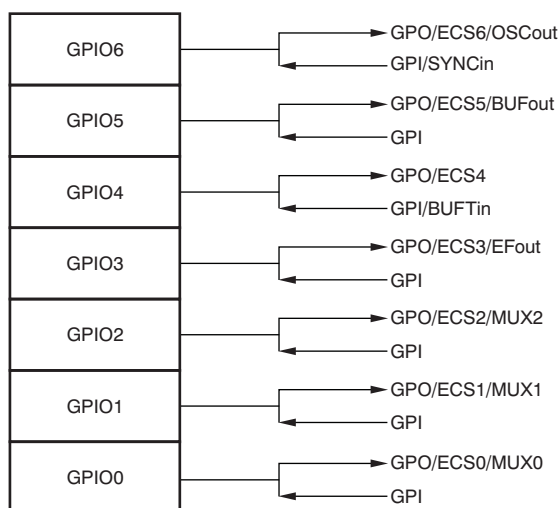

Figure 54. Special Function to Pin Assignment Reference
As shown in Figure 54, the PGA280 has seven multi-function pins labeled GPIO0 through GPIO6. These pins can function as general purpose input-output (GPIO) pins either to read a digital input or to output a digital signal as an interrupt or control. GPIO functions are controlled through Register 5 and Register 8.
- (1) Blank register bits are ignored and undefined.
- (2) Registers 13 to 15 are for test purposes; read-only.
- (3) Power-on reset values are SftwrRst values.
- (4) Details for GPIO pin assignments are shown in Figure 54.